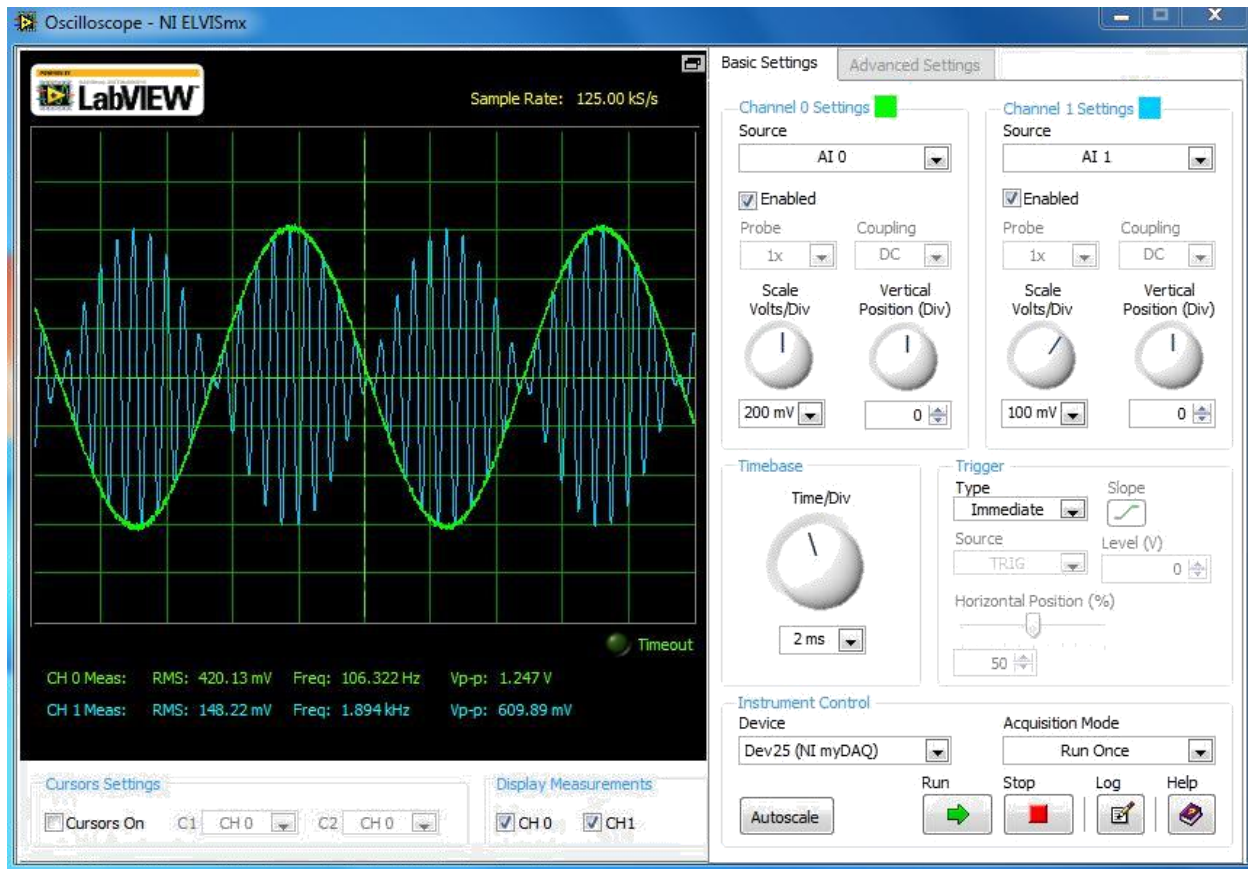

Figure 3: An example of a sinusoid modulated by another sinusoid.
- (e) You should see two traces on your scope: one being the sinusoidal signal from your laptop, and the other being the modulated output (i.e. the signal from your laptop multiplied by the sinusoidal carrier from FGEN). Experiment with the Time/Div setting to get a feel for how it allows you to "zoom in" and "zoom out" along the time dimension. Make sure that the modulator output looks like a sinusoid multiplied by a sinusoid, along the lines of Figure 3. (If your readings don't "make sense," check your connections, and then ask a lab instructor for help if you still have trouble.)